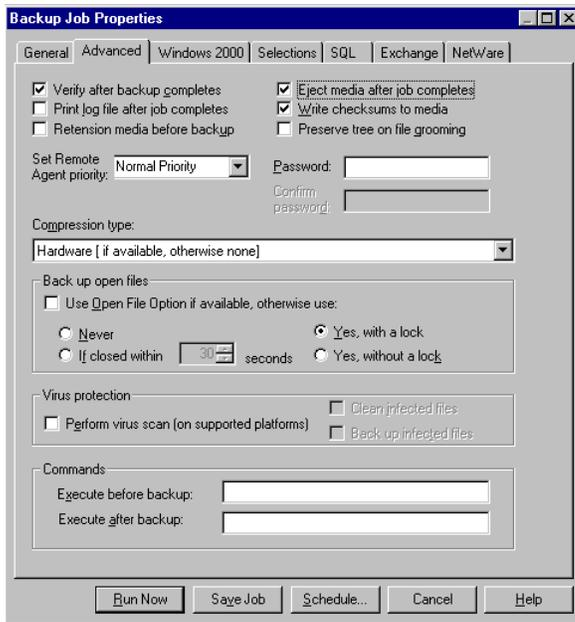

Figure 9: Advanced backup job properties dialog
3. The advanced properties tab enables you to verify the backup, automatically eject the tape, or back up files that are currently open. Click Run Now to begin the backup immediately, or click Schedule to back up the files at a later time, as shown in Figure 9.